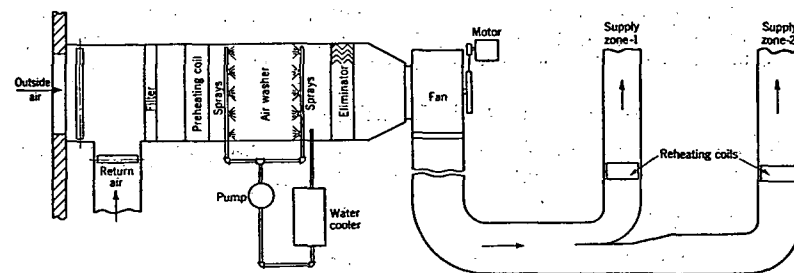

FIG. 5. CENTRAL SYSTEM WITH BOOSTER COILS
5. Central conditioning system using either washer or coils with booster reheating coils (Fig. 5). This is used for special zone control where there is great variation in heating requirements of different spaces, as may be caused by different exposures to wind and sun.